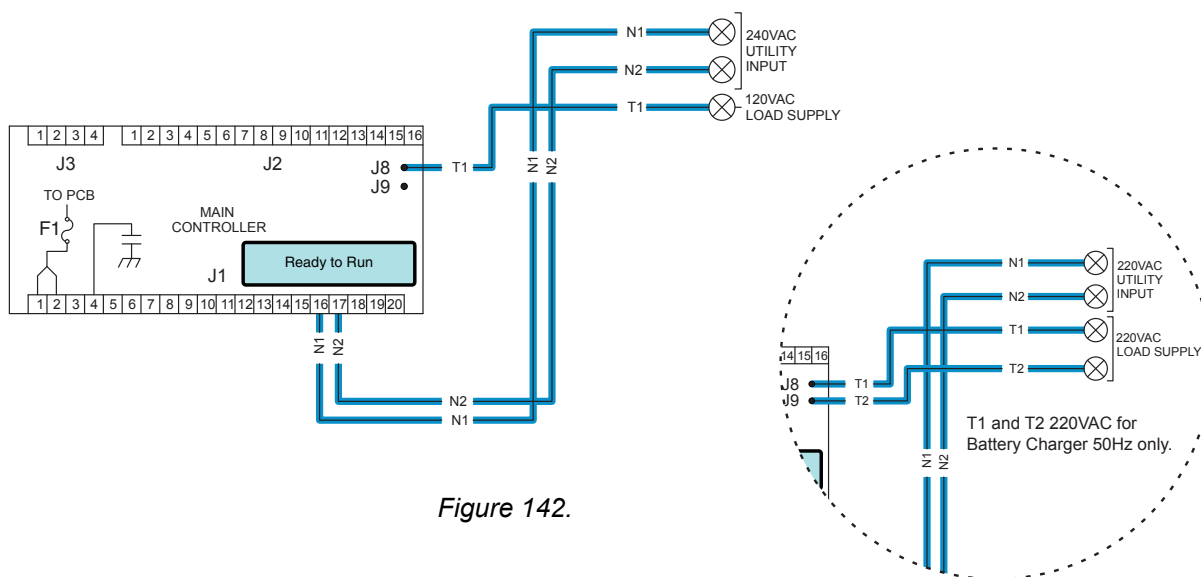

Figure 142.
- Utility voltage is available to the controller via Wire N1 and N2 (see Figure 142).